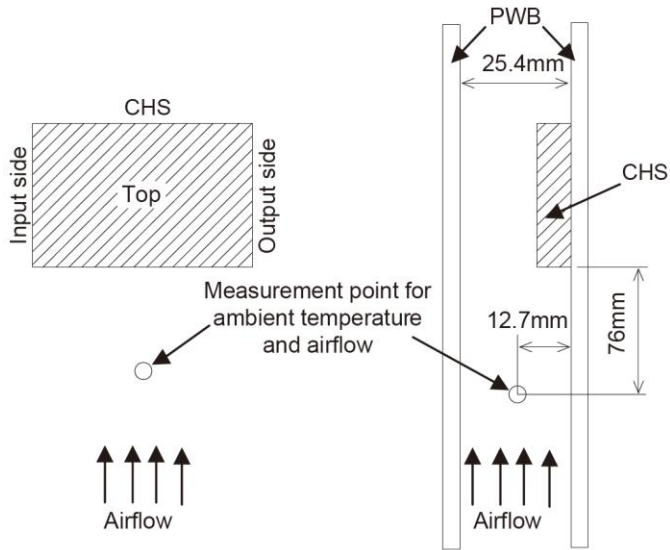

Fig.5.8.13
- Fig.5.8.13 ~ 5.8.34 show the derating curve in the condition that is measured as shown in Fig.5.8.12.